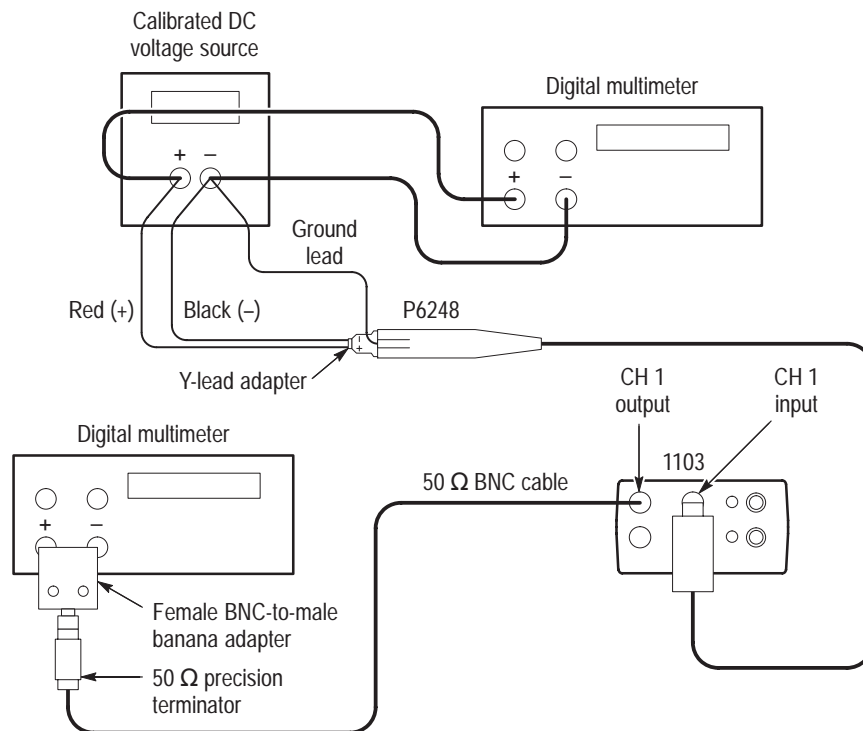

Figure 11: Setup for gain adjustment
1. Set up the equipment as shown in Figure 11: